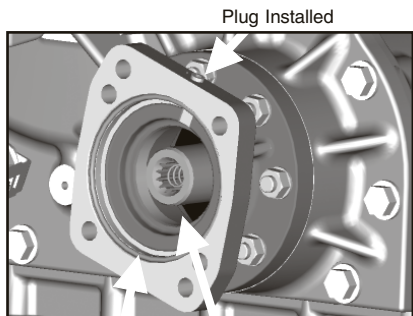

Fig. 12 Pump O-Ring Shaft Seal Removed
- a. Wet spline installation will be the same as above (step a thru g of the pump mount installation (item 4 page 12)
- b. The P.T.O. housing will not have an oil seal and there will be a "plug" (1/8" NPT) in the housing (**Fig 12**).
- c. Install O-Ring that is supplied with kit in flange as shown (**Fig 12**).